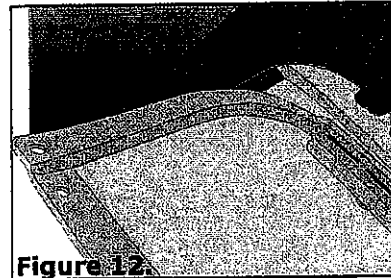

Figure 12.
- Slide fascia tab under chin shelf, into channel as shown in Figure 12.